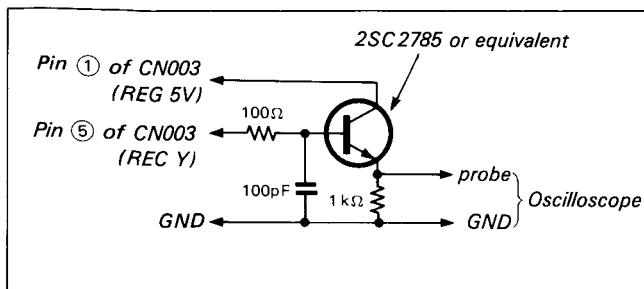

Fig. 8-28.
**Note 2:** Use the low-pass filter shown in Fig. 8-28.
**Note 1:** Use the low-pass filter shown in Fig. 8-28.
**Note 2:** Be sure to use the MP type tape. (Be sure Pin ④ of W001 TAPE 2/TAPE 1 is at "L".)
- Note:** 1. Use the low-pass filter shown in Fig. 8-28.